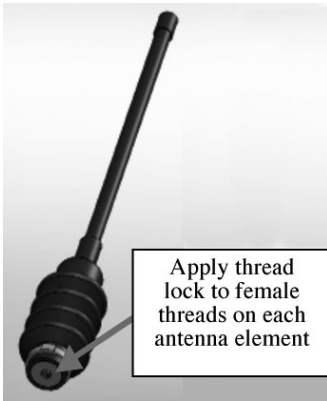

Figure 12: Thread lock on antenna element
- (7) Secure antenna array. Install a lock washer and flat washer onto a 1/4-20 x 3/4" fastener. All material should be 316 CRES. Apply anti-seize to threads of 1/4-20 fastener. Install fastener through the 1/4" hole at the antenna array mounting base and into the tapped mast. Do not over-torque or threads will strip.
- (8) Fasten antenna elements (qty 8). Apply threadlock to the threads of the antenna elements and mounting bolts (see figures 12 & 13). Screw (hand-tighten) each element on mounting bolts. Do not over-torque the antenna elements. Wipe any excess threadlock from surrounding area.